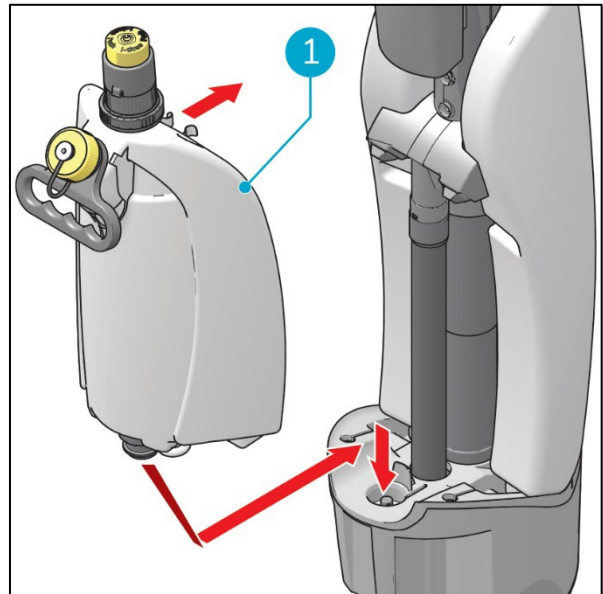

Figure 11
2. Put the cleaning solution tank (Figure 11, pos 1) on the i-mop XXL Pro with the valve first.